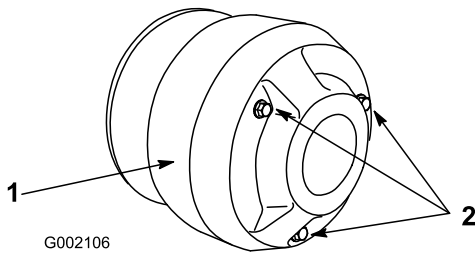

Figure 46
3. Remove the 3 bolts securing the cover to the clutch and remove the cover (Figure 46).